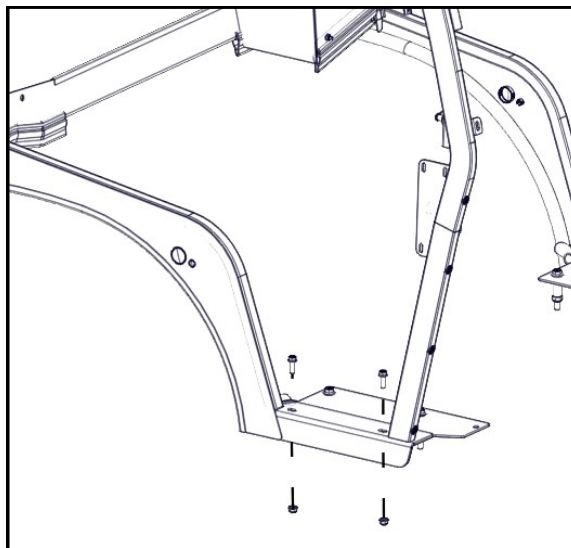

Fig. 8.1 (Right Sideframe Installation)
**8.1** With assistance, place right side frame in place. Fasten the floorboard to the right side front mount with bolts and nuts — no plastic washers. See Fig. 8.1. Ensure sideframe seals against the tractor fender.